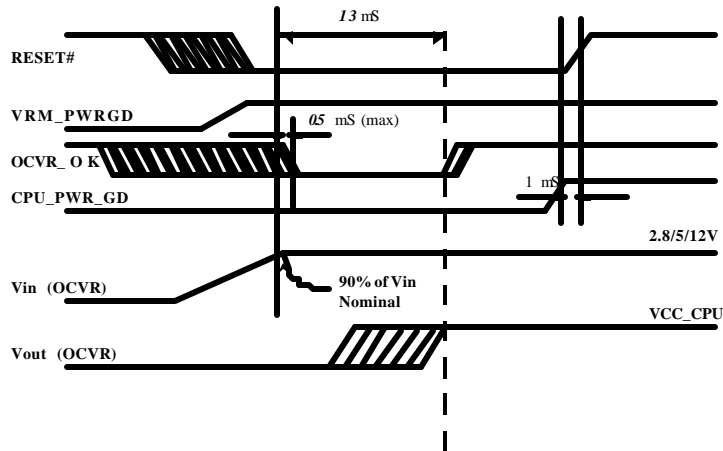
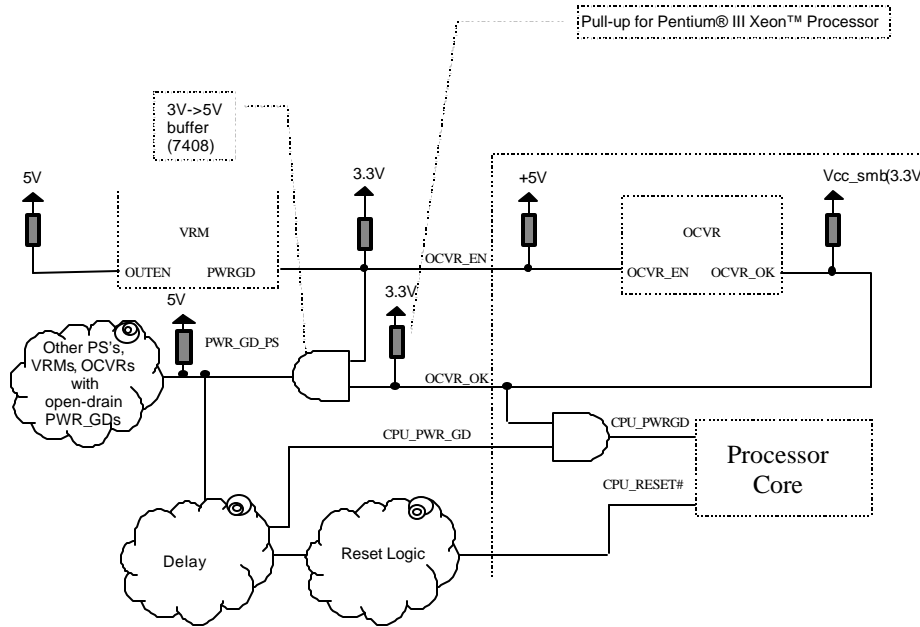

Figure 41. PWRGD Relationship at Power-On
Figure 42. PWRGD Implementation
This signal is the output enable for the internal cartridge voltage regulator. Driving this Low will inactivate the outputs of the OCVR. This is an open drain signal referenced high to +5V through a 10K ohm resistor within the cartridge to activate the VRM when not driven low (this to satisfy legacy requirements). Refer to Figure 41 and Figure 42 For PWRGD relationships at Power up.
This is an open drain compatible output from the On-Cartridge Voltage Regulator Module (OCVR) indicating that its outputs are enabled and operating within specifications. This signal is referenced to VCC_SMB (+3.3V) through a 10K ohm resistor, and should be used in conjunction with an equivalent signal from the host power system to generate the CORE_PWRGD signals for the processor cores. Refer to Figure 41 and Figure for PWRGD relationships at Power up. PWRGD assertion must lag OCVR_OK assertion.
The (Power Good) signal is a 2.5V tolerant processor input. The processor requires this signal to be a clean indication that the clocks and power supplies (VCC_CORE, VCC_L2, VCC_TAP, VCC_SMB, VCC_{2.5}) are stable and within their specifications. Clean implies that the signal will remain low (capable of sinking leakage current), without glitches, from the time that the power supplies are turned on, until they come within specification. The signal must then transition monotonically to a high (2.5V) state. Figure 41 illustrates the relationship of PWRGD to other system signals. PWRGD can be driven inactive at any time, but clocks and power must again be stable before a subsequent rising edge of PWRGD. It must also meet the minimum pulse width specification in Table 13 and be followed by an 8 mS RESET# pulse.
Current VRM 8.3 (on baseboard) specification requires VRM_PWRGD to be asserted when its output is within 12% of nominal value. In the Pentium III Xeon processor at 600 MHz+, PWRGD is logically ANDed with OCVR_OK before being applied to the core (PWRGD_CORE). According to legacy EMTS documents, RESET# negation is expected 1 mS after seeing PWRGD_CORE becoming valid by the processor core. The OCVR is not expected to provide a valid OCVR_OK signal assertion within 13 mS of seeing 90% of its input voltage. The delay before the assertion of OCVR_OK may cause a race condition between RESET# and the valid PWRGD_CORE that is seen at the core. It is recommended to relax the deassertion of RESET# to meet this critical constrain. Careful analysis needs to be done in existing platforms. Refer to Figure 41 and Figure 42 below for new timing relationship requirements.
1. VCC_CORE must be applied to the OCVR input before OCVR_OK can become valid (even though it could be pulled high if the VCC_SMB supply is turned on, see figure 41).